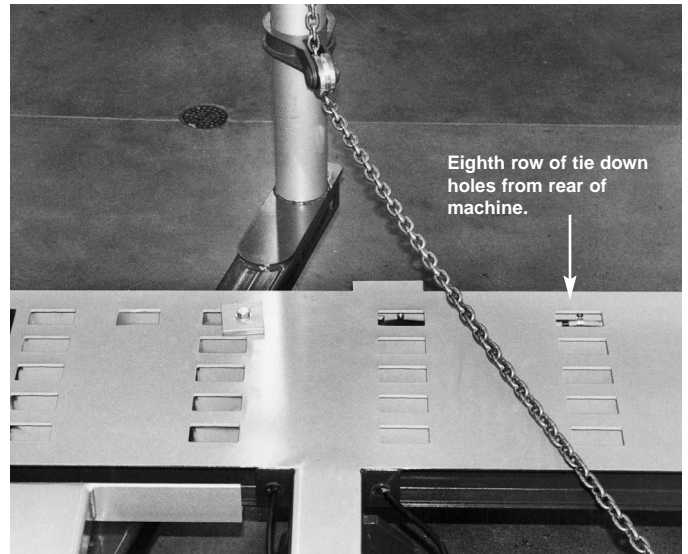
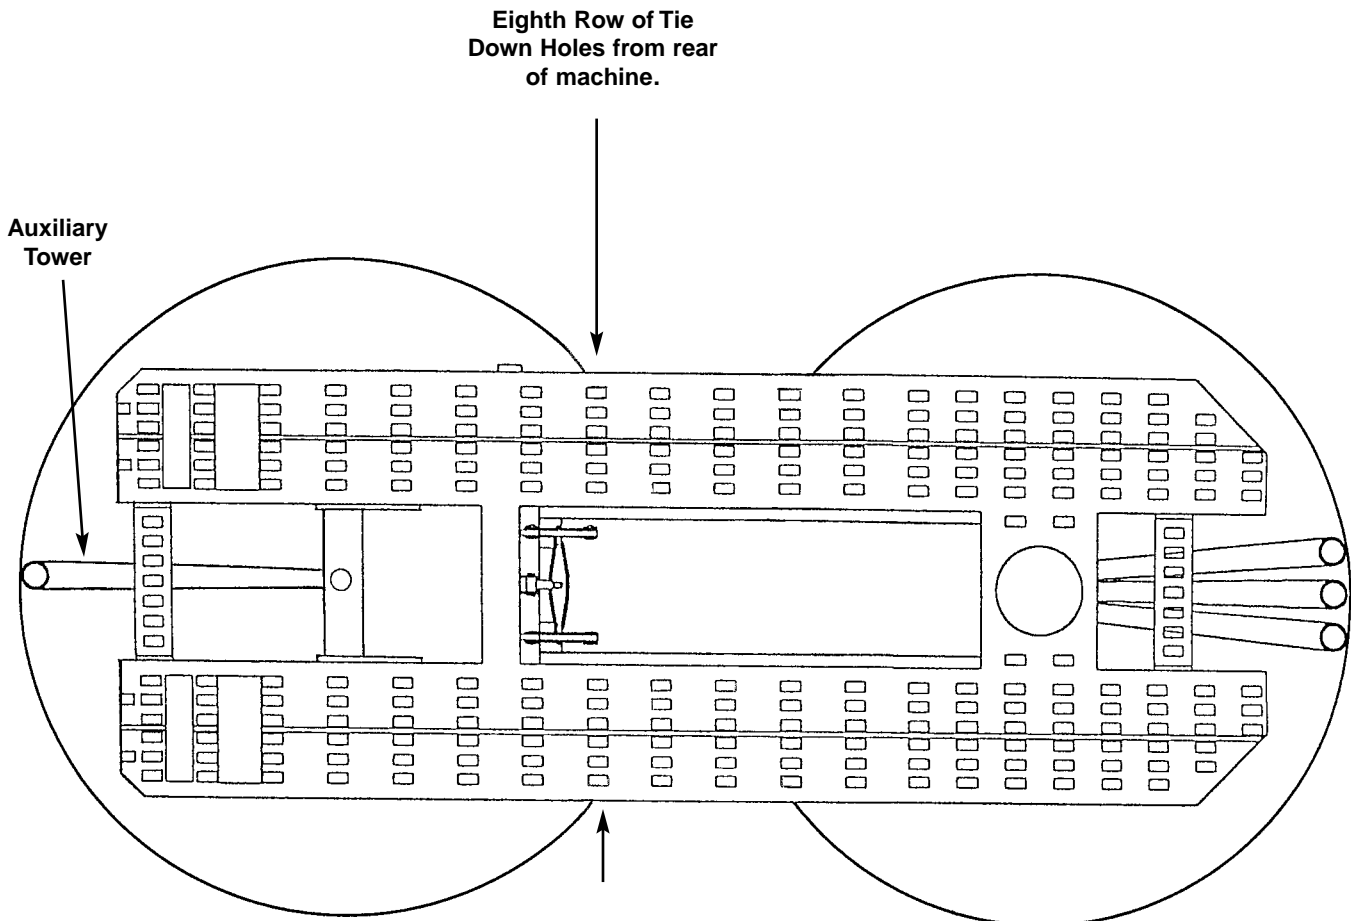

Figure 10
Figure 11
a. DO NOT make pulls beyond eighth row of tie down holes from rear of machine. (See Figures 10 and 11.) Figure 11 shows top view of machine with a single auxiliary tower installed. Range of tower movement (approximate) is indicated.